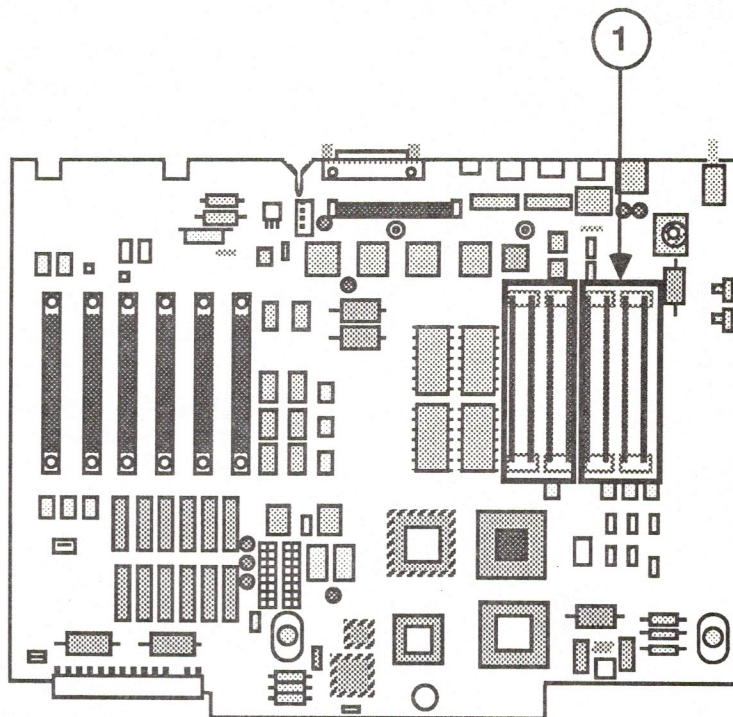

FIGURE 1
4. Install the four known-good 256K SIMMs in Bank A (Figure 1, #1).